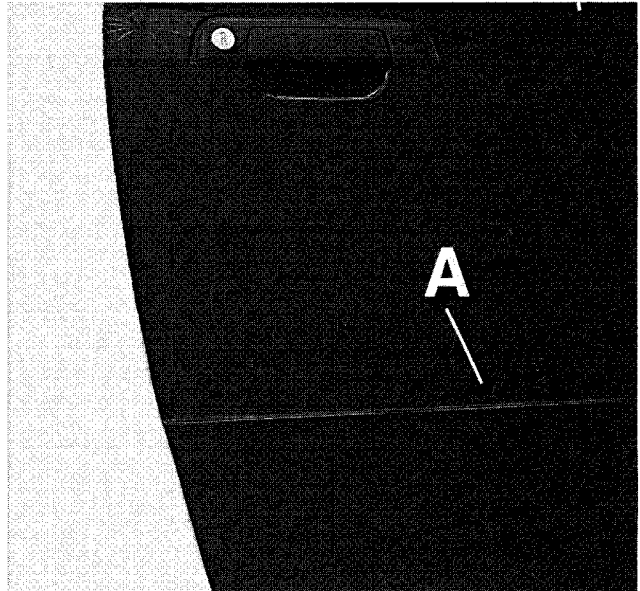

Fig. 11. Using 4mm Allen socket, reach through rear bore hole (**A**) in door to remove window guide bracket bolts. (Exterior door molding has been removed.)
- Lower window about 4½ in. (110 mm). If necessary, temporarily reconnect battery cable. Working through bore hole in door exterior, remove lower guide bracket through-bolt from glass. See Fig. 11.